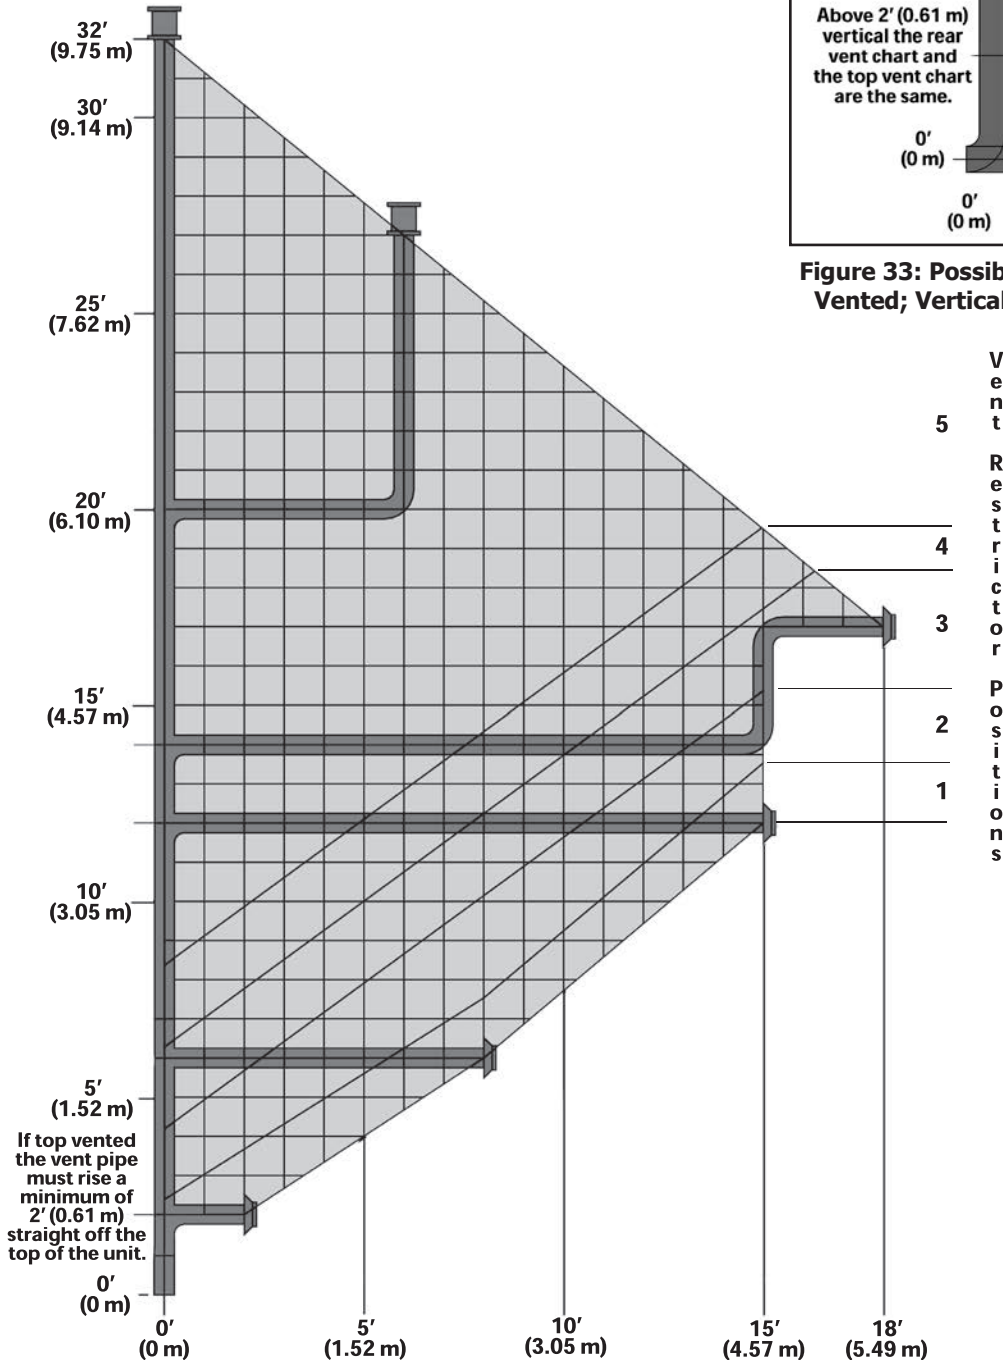
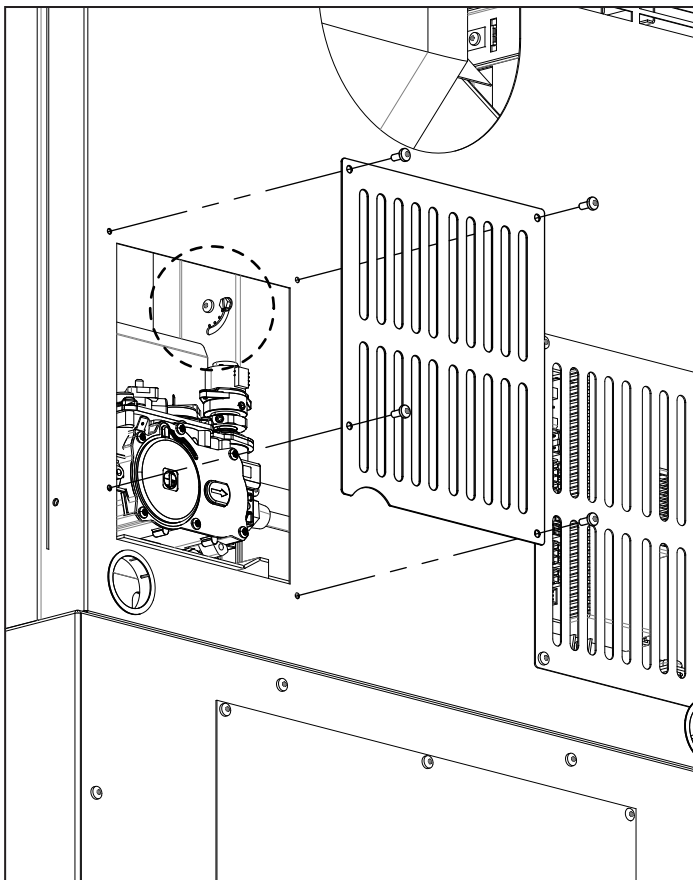
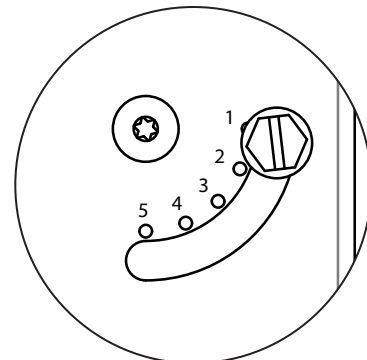
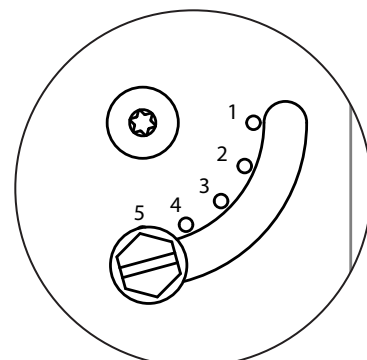

Figure 34: Possible Vent Configurations for Top Vented; Vertical and Horizontal Terminations.
Figure 35: Restrictor Adjustment Location
Figure 36: Restrictor Setting 1
Figure 37: Restrictor Setting 5
Your total vent pipe length must be within the shaded area of Figure 34. If a 90° elbow is used in the horizontal plane, 36" (91.4 cm) must be subtracted from the allowable horizontal run.
Figure 34 & Figure 35 show the range of venting options, they show possible vent configurations if the unit is top vented (see Figure 34) or rear vented (see Figure 35), for vertical and horizontal terminations, any layout that remains within the shaded area is acceptable. Having the fewest number of elbows is ideal, as they tend to disrupt air movement. Using 45° elbows is preferable to using 90° elbows. Also, a shorter vent system will perform better than a longer one.
*NOTE: 0,0 in Figure 34 & Figure 35 represent the outlet of the flue collar elbow.
Figure 34 shows the vent restrictor position required, relative to the length of vent pipe. Longer vertical vent lengths necessitate greater restriction; position 1 (Figure 36) is open and position 5 (Figure 37) is maximum restriction. To avoid injury, it is best to make this adjustment when the fireplace is cool or use welder's gloves or oven mitts.
To access vent restrictor remove the valve cover plate from the right rear corner of the unit by undoing the four fastening screws. Refer to Figure 35.